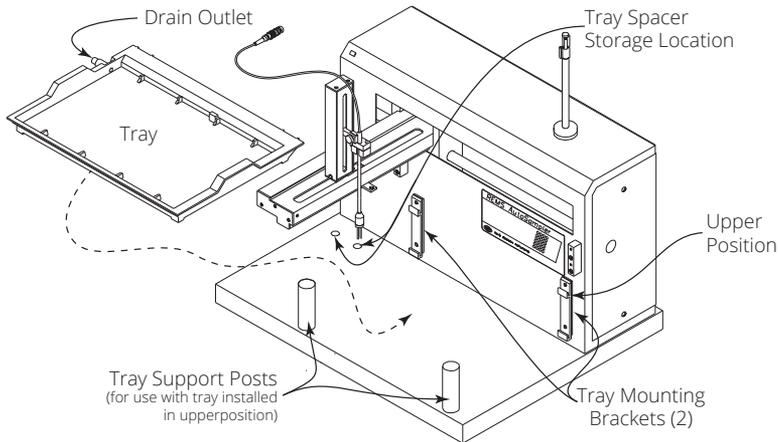

Fig. 8 — Tray installation on the robotic sampler
1. Screw the tray support posts into place (Fig. 8).